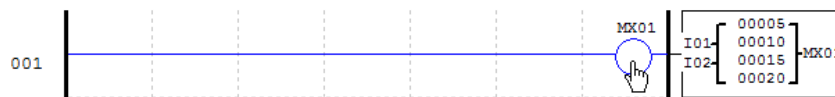

Figure 1
1. Using the SG2 Client software, duplicate the program as shown in Figure 1 below.